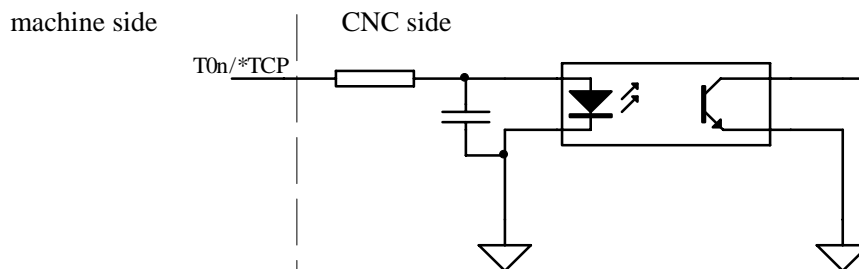

Fig.2-37
1、The optocoupler is used for T01~T08 and TCP, the inside circuit as fig.2-37: